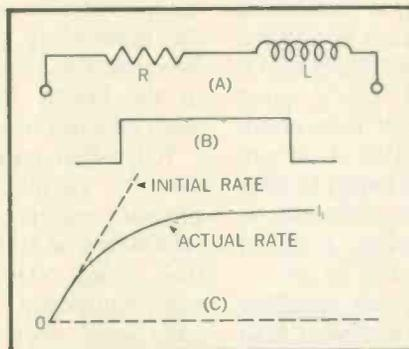

Fig. 5—The resulting current with the application of a trapezoidal voltage waveform to a CRT yoke.
In Fig. 5 we again have the typical R-L circuit (A) representing the deflection coil positioned on the neck of the CRT—the small series resistance actually being the resistance of the copper in the inductor.